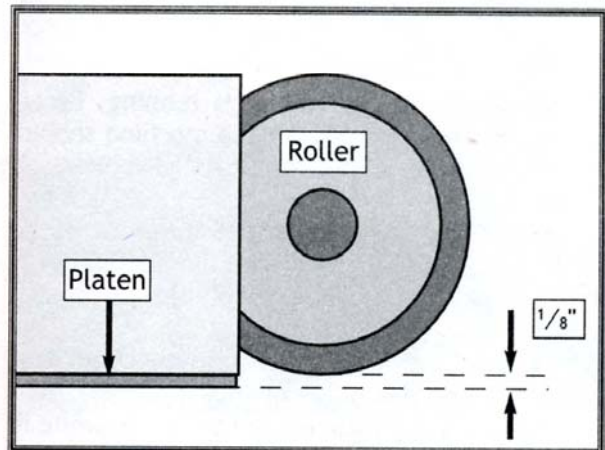

Figure 12. Proper platen to roller alignment.
4. Place a straightedge against the platen and check the roller clearance along the top and bottom. The roller should be $\frac{1}{8}$ " behind the platen. Figure 12 shows a top view of the proper clearance.